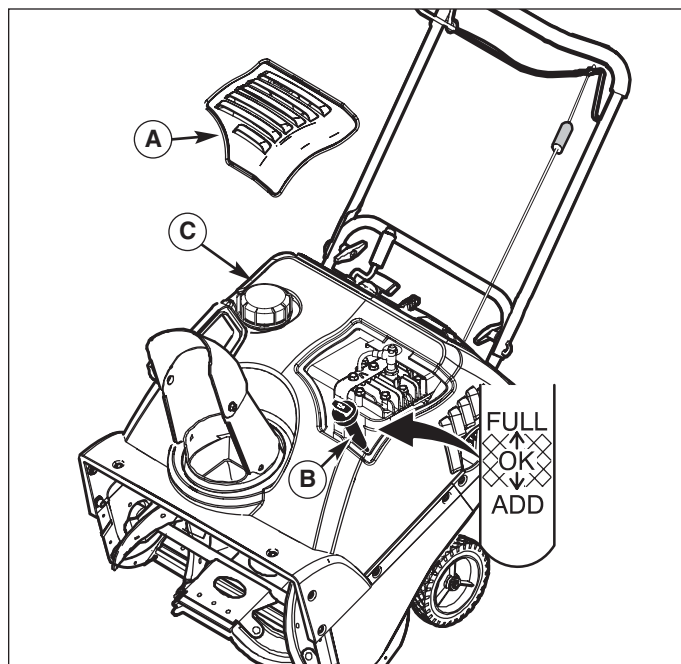

Figure 9. Add / Check Engine Oil and Gasoline
2. Remove the oil fill cap/dipstick access panel (A, Figure 9).
5. If necessary, add oil until the oil reaches the FULL mark on the oil fill/cap dipstick (see Figure 9). Do not add too much oil.
1. Remove the fuel cap (C, Figure 9).